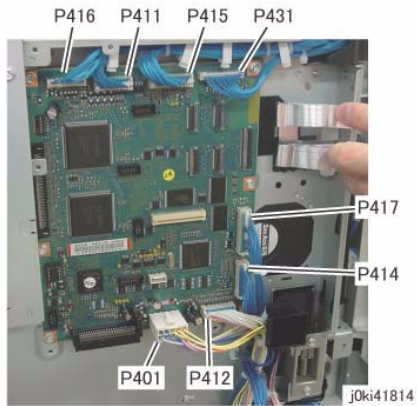

Figure 2 Disconnect the connectors
8. Disconnect the connectors (x8). (Figure 2)